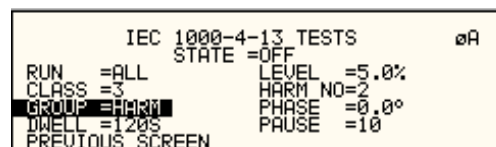

Figure 9-25: IEC 1000-4-13 Harmonics
If the Harmonics group is selected, the screen will appear as shown in Figure 9-25. The screen has the following parameters that are unique to the group:
3. To run an individual range, applicable for sweep and individual harmonics only, the desired range and the RUN RANGE mode must be selected prior to the start of the test. In case the harmonics group is selected, RUN RANGE will run the harmonics from the second harmonics to the harmonics number specified by the HARM NO field. See Figure 9-25.